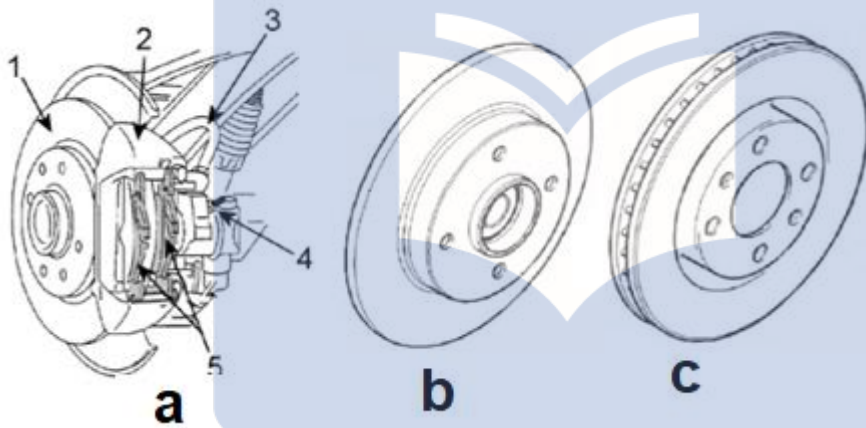

Figure 8.1
8) **Figure 8.1** below shows disc brakes